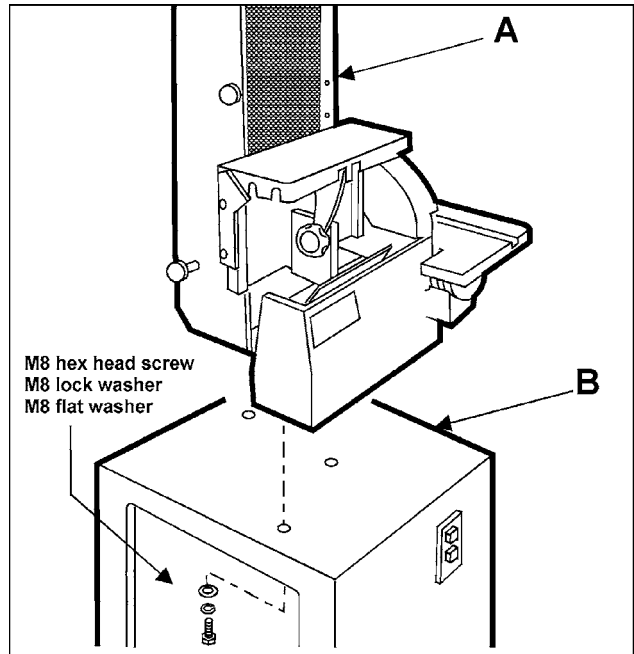

FIGURE 3
2. Mount the sander body (A) to the stand (B) with four M8 x 25 hex head screws, four M8 lock washers and four M8 flat washers as shown in Figure 3.